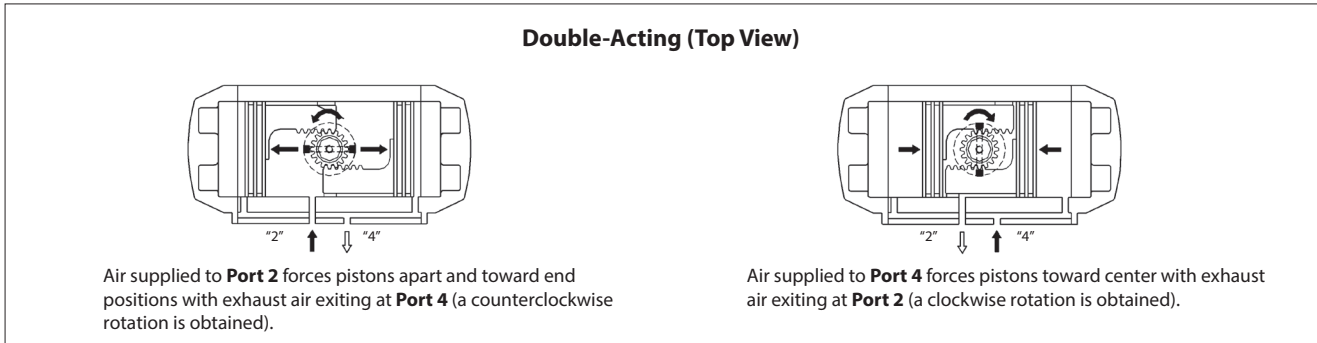

Figure 1.
1. Check to see that the desired failure mode is correct (**Figures 1 & 2**). In the spring-to-close mode, the actuator will cycle clockwise to close upon loss of pressure. If the spring-return actuator is not set up in the configuration desired, follow the disassembly procedure section 4.2. Reverse the orientation of the pistons, then reassemble following the assembly procedure, section 4.3.